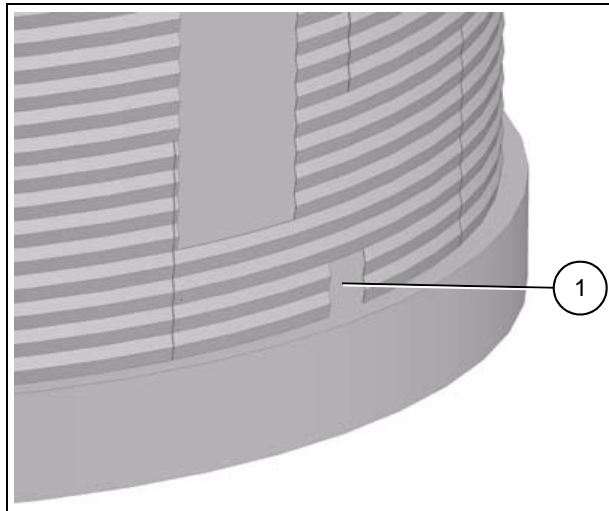

Figure 4A
1. Cut 12" x 12" (30 cm x 30 cm) opening in bin wall where unload is to exit bin. (See Figure 4A.)